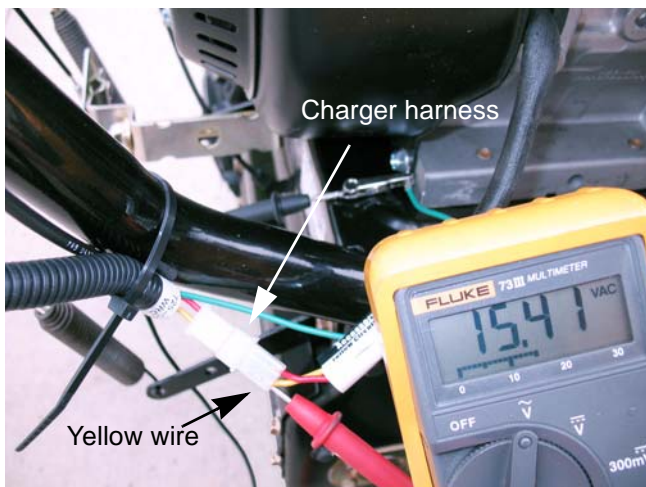

Figure 6.16
5. Back probe the yellow wire in the charger harness with the red (+) lead of the multimeter. See Figure 6.16.